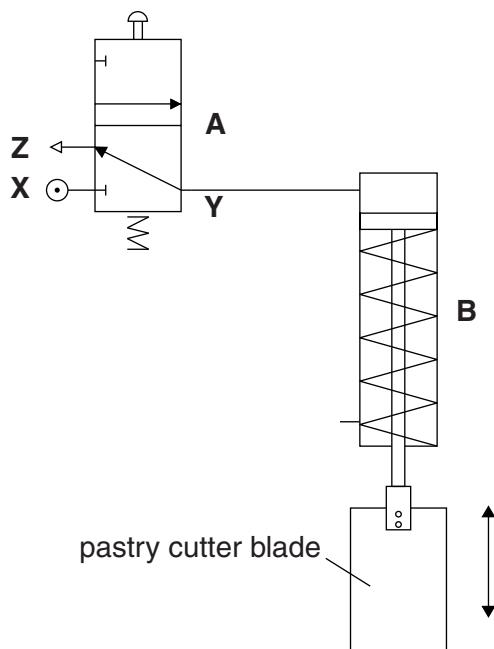

Fig. 3
- 2 Fig. 3 shows the circuit for a prototype of the pastry processing machine.
- (a) (i) Using the letters on Fig. 3 explain how the pastry cutter blade will move up and down.